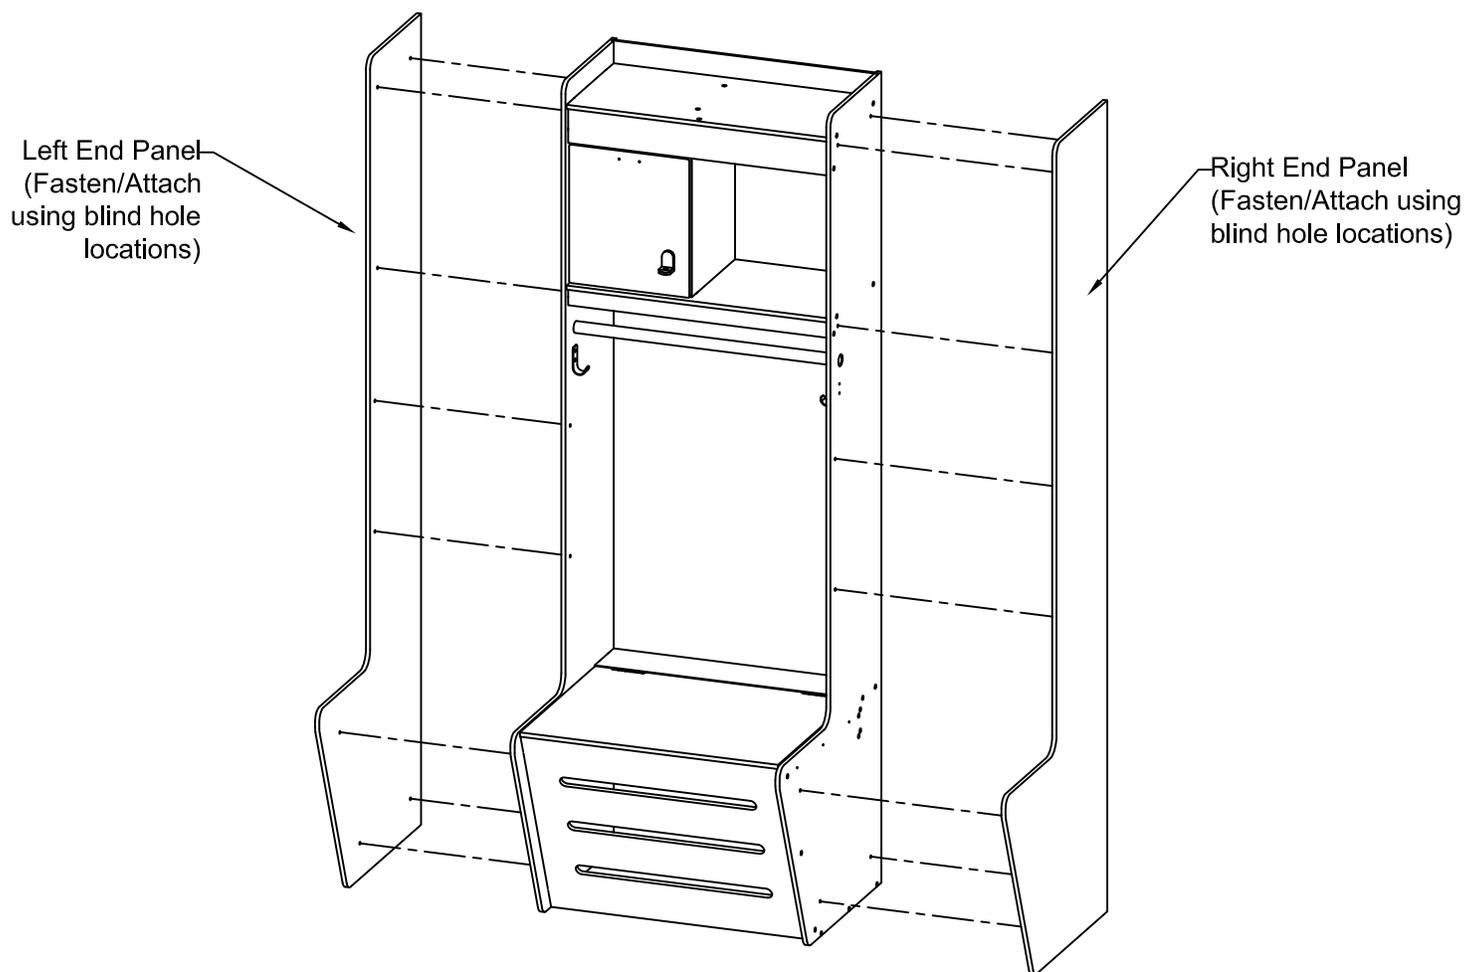

Figure 5.1: End Panel Assembly
- 7.2 Place the end panel against the exposed outer side of locker. Line up the blind holes with the holes on the locker. See figure 5.1.